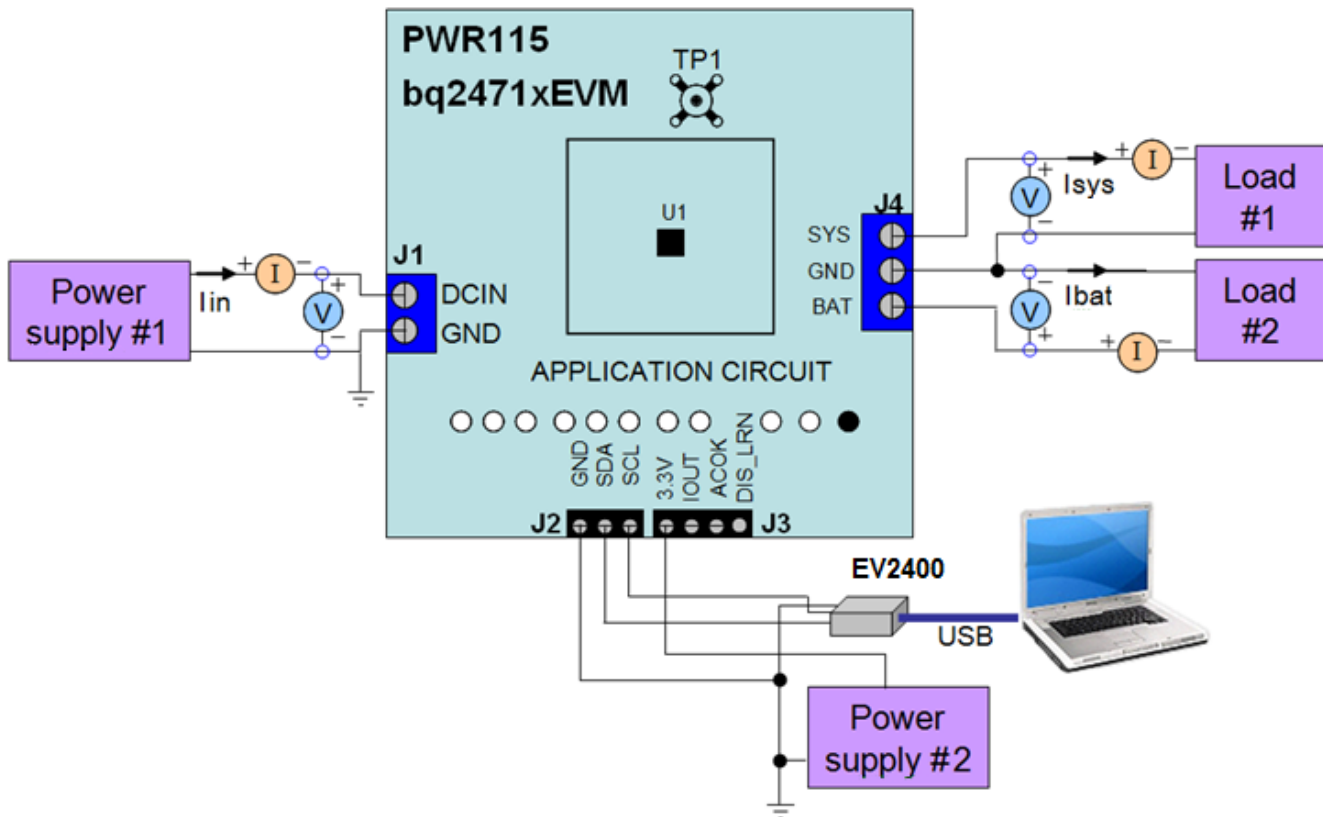

Figure 4. Test setup for PWR115
3. Connect the output of the Load #1 in series with a current meter (multimeter) to J4 (SYS, GND). Make sure a voltage meter is connected across J4 (SYS, GND). Turn on power of Load #1. Set the load current to 0.5 A ±50 mA but disable the output. The setup is now like Figure 4 for PWR115. Make sure $I_{bat} = 0 \text{ A} \pm 10 \text{ mA}$ and $I_{sys} = 0 \text{ A} \pm 10 \text{ mA}$.